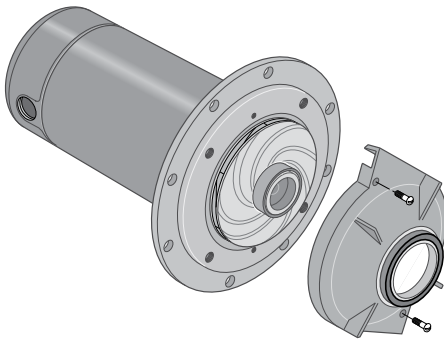

Figure 14: Remove Diffuser
1. Remove screws fastening diffuser to seal plate; remove diffuser (see Figure 14). Exposed impeller can now be cleaned.